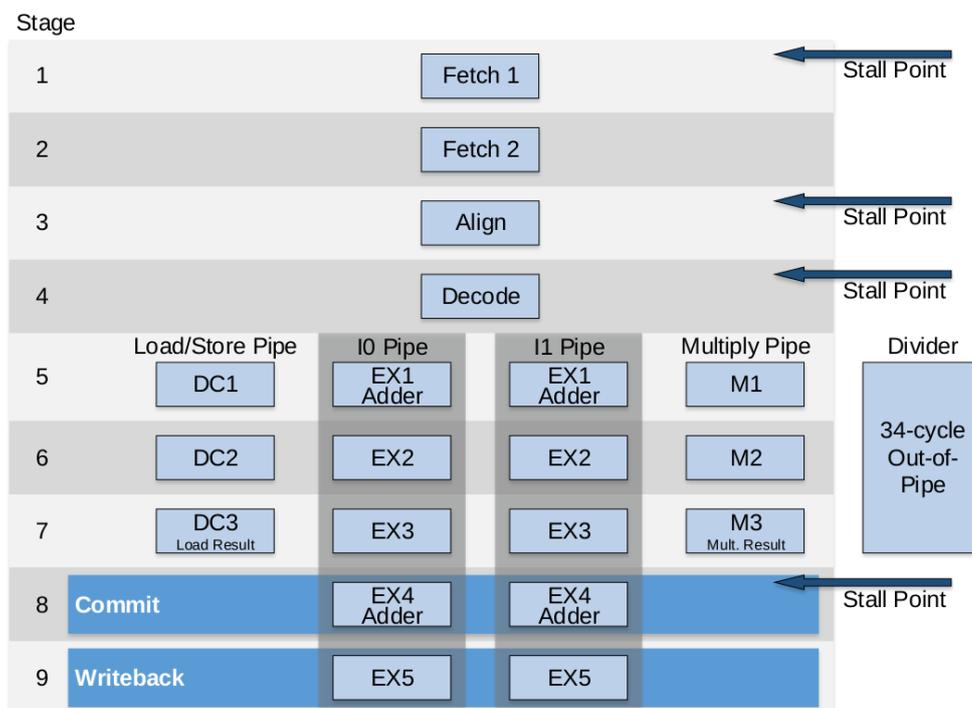

Figure 1. SweRV EH1 core microarchitecture
As explained in the RVfpga Getting Started Guide (GSG), SweRV EH1 is a 32-bit 2-way superscalar 9-stage pipelined in-order processor. Figure 1 shows a high-level view of the SweRV EH1 microarchitecture. SweRV EH1 supports RISC-V's integer (I), compressed instruction (C), and integer multiplication and division (M) extensions. Its impressively high performance per MHz (4.9 CM/MHz) is accomplished thanks to the inclusion of several microarchitectural techniques, from the most basic and common ones, such as pipelining and an instruction cache, to other more specific and advanced techniques, such as superscalar execution, non-blocking loads and divisions, two secondary ALUs that allow Arithmetic-Logic instructions being repeated when necessary due to data hazards (see Lab 15 for details), unaligned loads and stores, scratch pad memories for both instruction and data, and advanced branch prediction. All these techniques will be extensively analysed in these labs.
The processor described in DDCARV has 5 pipeline stages, which are called the *Fetch*, *Decode*, *Execute*, *Memory* and *Writeback* stages. In contrast, the SweRV EH1 pipeline is divided into 9 stages (Figure 1): the *Fetch1*, *Fetch2*, *Align*, *Decode*, *EX1/DC1/M1*, *EX2/DC2/M2*, *EX3/DC3/M3*, *Commit*, and *Writeback* stages. When comparing the two processors, some stages are equivalent, such as the Decode and Writeback stages. But SweRV EH1 adds parallel paths (load/store vs. integer vs. multiply pipes), splits some stages into multiple stages (*Fetch* is 2 stages and *Execute* is 3 stages), and adds stages (the *Commit* and *Align* stages).